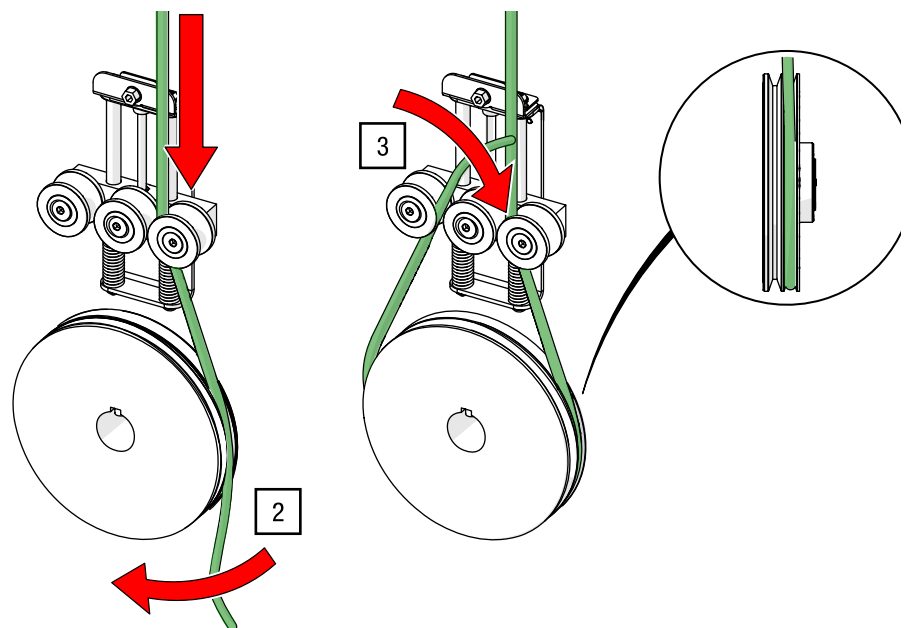

Fig. 127: Guide the cord around the inner groove of the traction disc
2. Guide the operating cord, which is coming out of the operating cord system, over the inner side of the right tensioning unit guide onto the inner groove of the traction disc (see Fig. 127).
3. Guide the operating cord further around the central tensioning unit guide back to the traction disc (see Fig. 127).